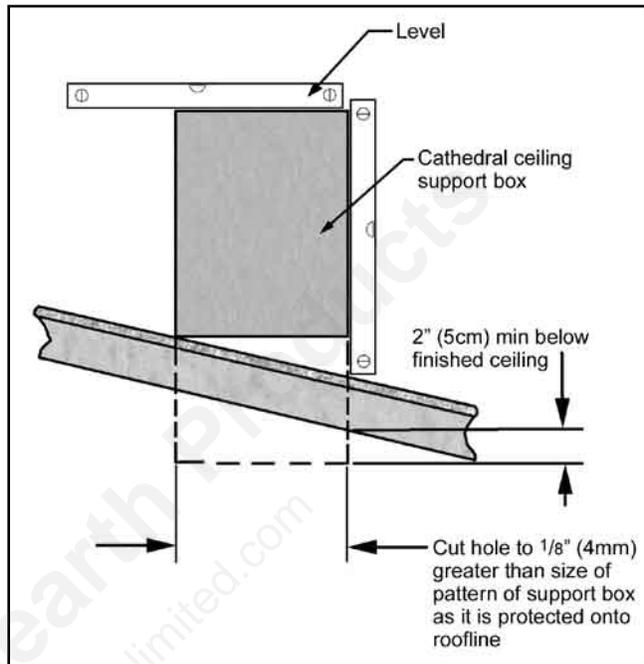

Figure 16: Cathedral Ceiling Support Box Leveling.
STEP 4. Lower the "Support Box" through the hole in the roof until the bottom of the "Support Box" protrudes at least 2 inches (5 cm) below the ceiling. Align the "Support Box" both vertically and horizontally with a level as shown in Figure 16. Temporarily tack the "Support Box" in the place through the inside walls and into the roof sheathing.